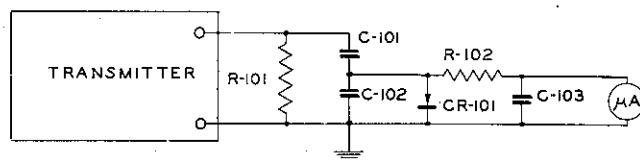
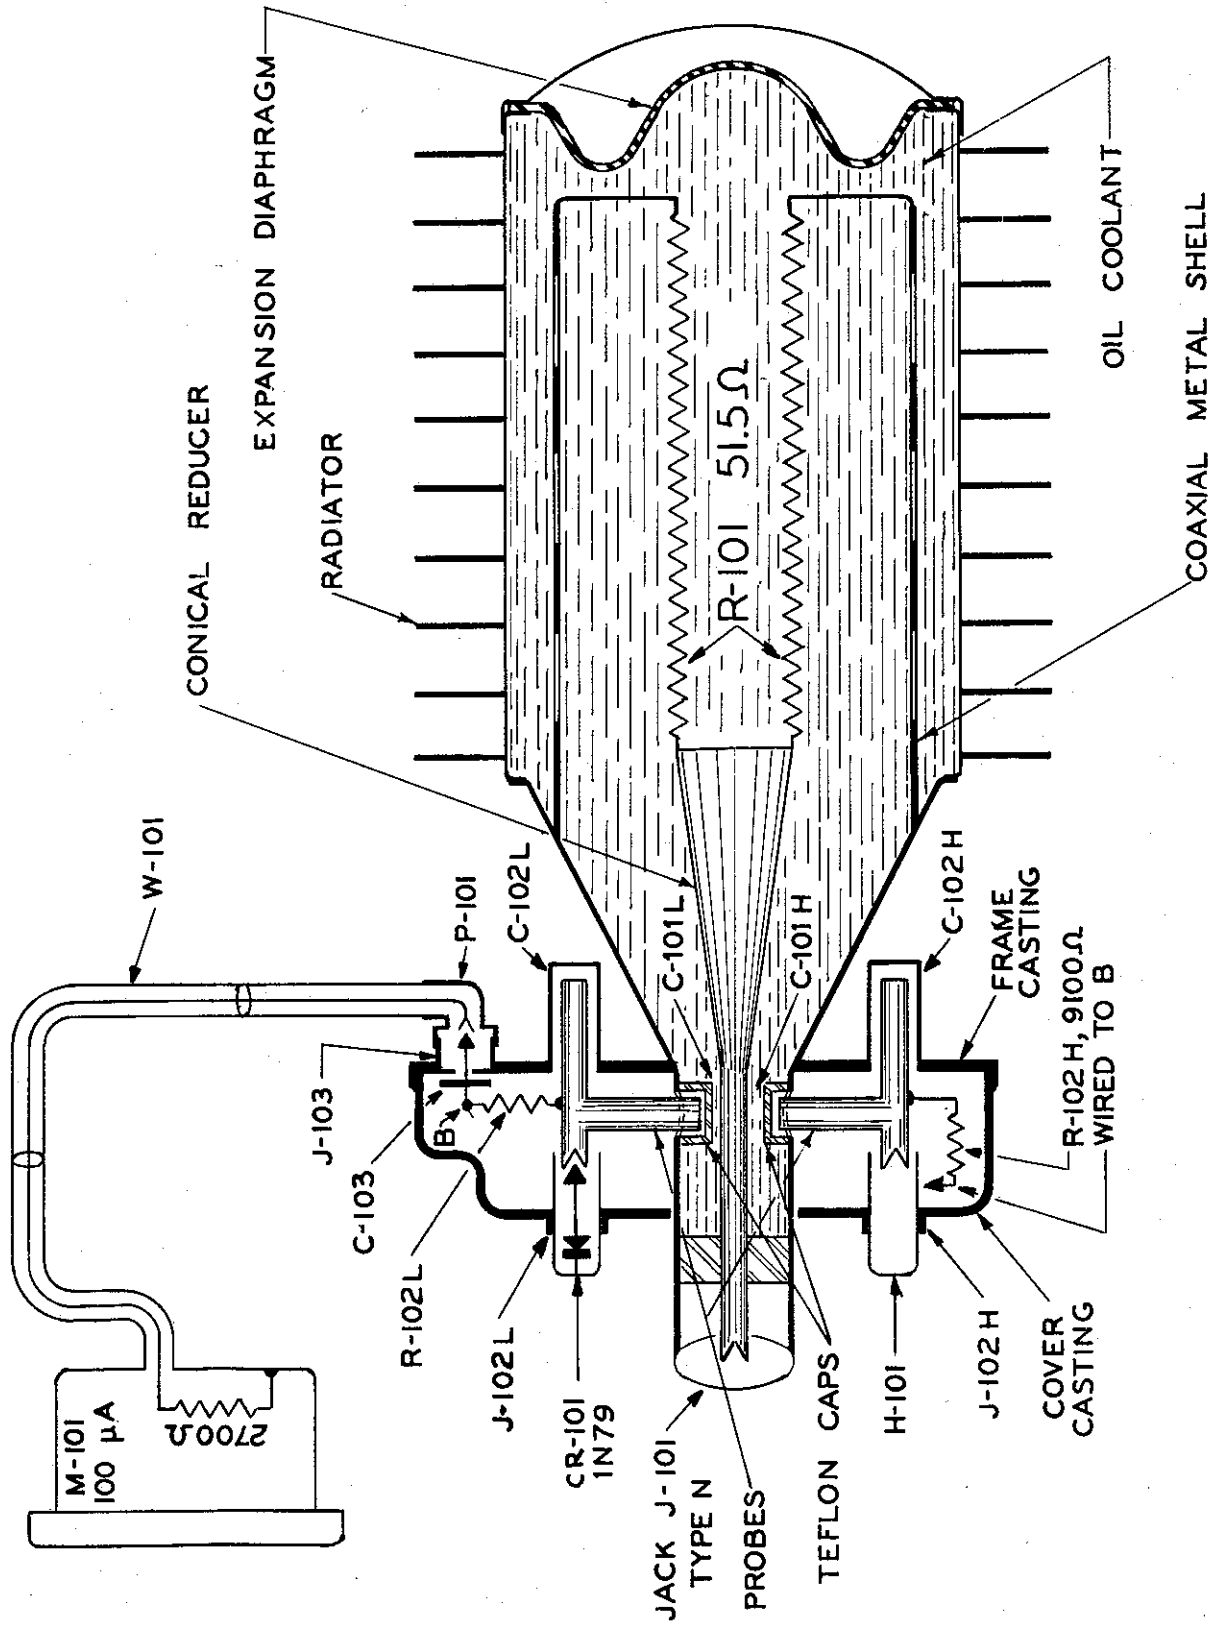
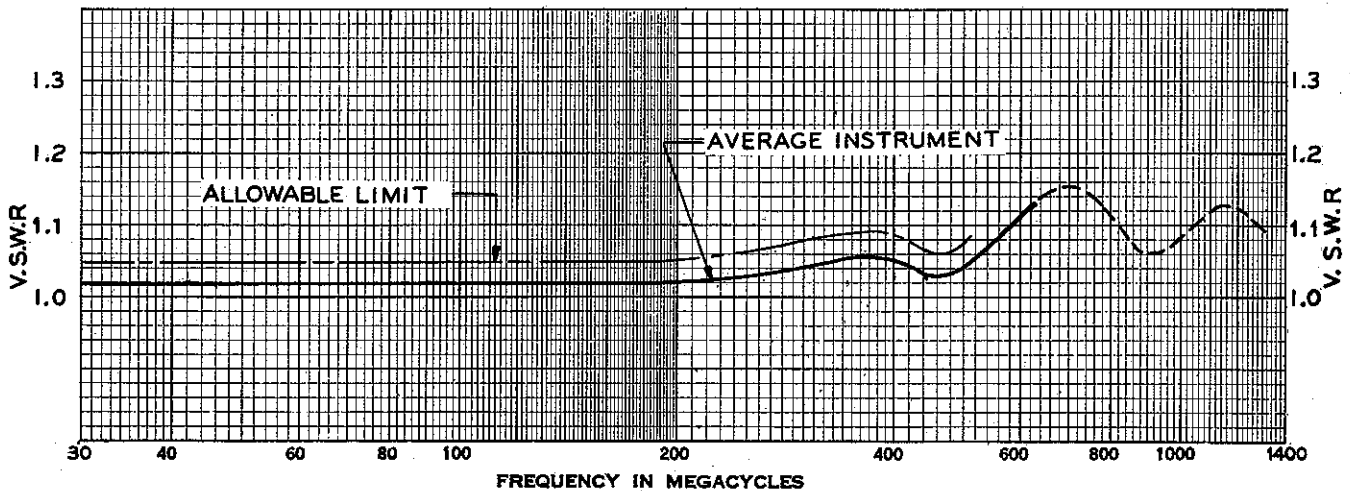

Fig. 2-3. RF Wattmeter Model 61 Simplified Schematic
Fig. 2-4. Schematic Diagram, RF Wattmeter Model 61
Fig. 2-5. Voltage Standing Wave Ratio vs. Frequency — RF Wattmeter Model 61
3. VOLTMETER CIRCUIT (See Fig. 2-3 and Fig. 2-4)
4. LOAD RESISTOR CIRCUIT (See Fig. 2-4)
(1) Fig. 2-5 shows the VSWR introduced by the wattmeter when connected to a 51.5 ohm coaxial line. This smooth curve is free from rapid cyclical changes of VSWR with frequency which occur with lossy-line loads.
(2) The average curve represents results of tests on many instruments. All wattmeters will have VSWR's which fall below the "allowable limit" curve. Below 500 mc, the region 350 to 400 mc tends to show highest VSWR values.
(3) Below 150 mc, the VSWR curve is flat. The input impedance at J-101 is practically a pure resistance equal to the d-c input resistance. Value of this resistance is stamped on the top of the voltmeter housing.
(4) From 500 mc to 1500 mc, the VSWR may reach 1.2 at certain frequencies. The wattmeter may be used in this frequency range at full power rating, although the direct-reading wattmeter calibration will be off.
a. The schematic diagram Fig. 2-4 indicates how the parts are arranged in the voltmeter housing, consisting of the **FRAME CASTING** and the **COVER CASTING**. The circuit elements are designed into the structure to obtain the necessary rigidity. Heat resistant dielectrics are necessary in this instrument and such parts are made of either teflon or ceramic.
(1) The probes, which form part of C-101L and C-101H, appear on Fig. 2-4 as heavy vertical conductors entering holes in the sheath of the rf load lines. Teflon caps surround the projecting portion of the probes and retain the coolant. These probes consist of a tubular sleeve, and a tip, adjustable by spring-locked threads. This calibrating adjustment serves to vary the capacitance of C-101 by varying the distance between the probe and center conductor.
(2) The shunt capacitors C-102L and C-102H are each coaxial, consisting of an outer brass tube electrode, a ceramic sleeve dielectric and a center beryllium copper electrode. The spring center contact for the crystal is integral with this center electrode.
- c. The time constant effect, which causes the sensitivity to decrease with frequency near the low end of the range. The time constant is the product of R-102 and C-102 in Fig. 2-3. This product must be made sufficiently high to maintain a full charge on C-102 between successive positive peaks of the input radio frequency.
c. AVOID operation in the "J-101 UP" position, i.e. resting on the expansion diaphragm cap at the rear of the radiator. In this position, any air within the coolant space will collect around the voltmeter probes (Fig. 2-4) and a change of dielectric constant in this region will affect calibration.